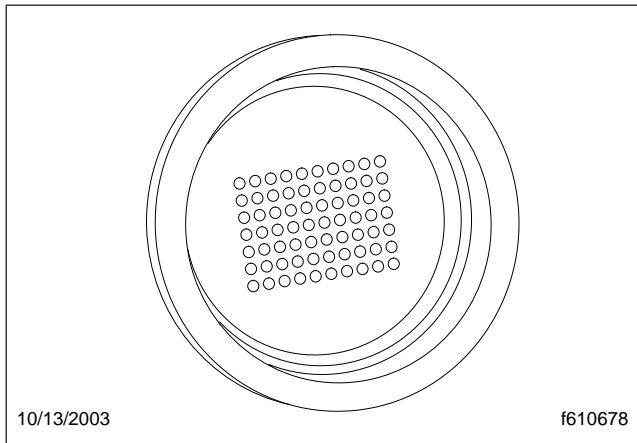

Fig. 8.14, Power-Up Dot Display
3. After the ignition is turned on, the current gear indicator shows the dot display, arranged in a square pattern. All dots in the pattern should light up, without gaps or spaces. See Fig. 8.14.
5. Select drive (D) by pressing in the neutral lock button and moving the selector switch downward to the position below neutral. Release the parking brake. The gear is displayed on the current gear indicator.